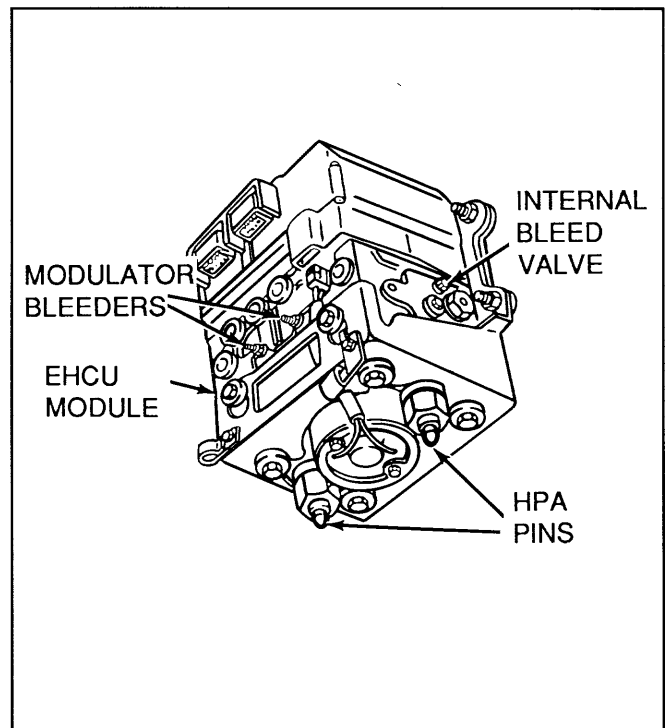

Figure 29. 4WAL Electro-Hydraulic Control Unit
4WAL brakes are one step more sophisticated than the RWAL brake system which has been included on many GMC Light Trucks for the past several model years. This system has an **electro-hydraulic control unit**, or EHCU to operate (cycle) the brakes for anti-lock stops (Figure 29). The EHCU, is made up of two main parts:
- Bleed the EHC first, through internal bleed valves and modulator pins (Figure 29).